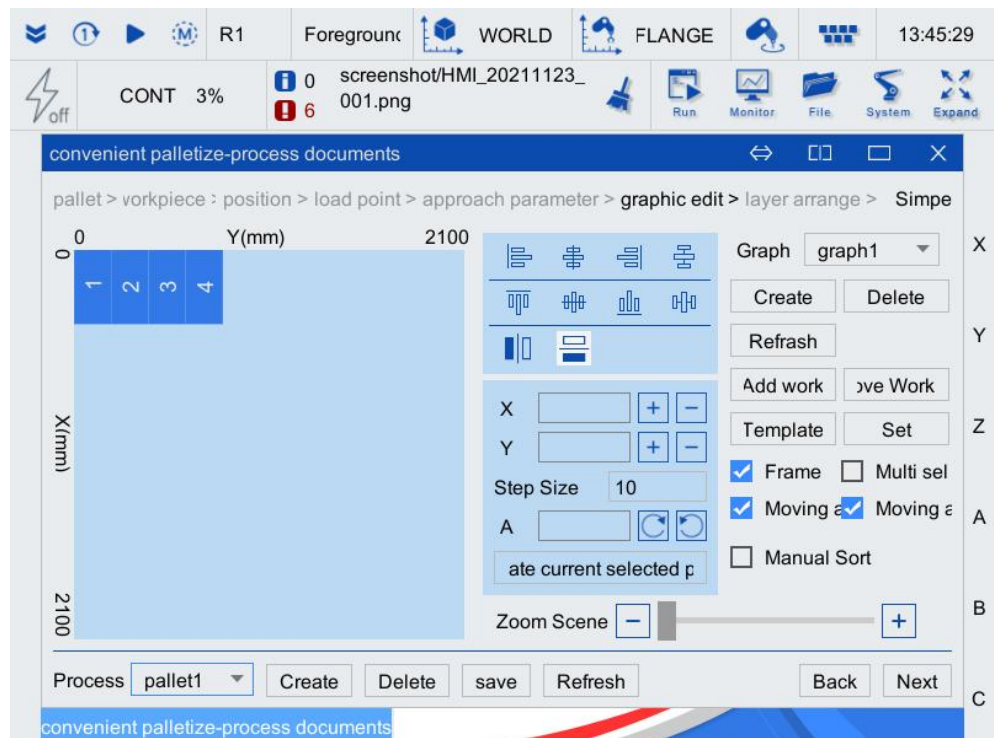

Figure 3-31 Graphic editing interface of the first floor of pressing seam palletizing
- Step3. Drag the workpieces with the stylus to make the arrangement of workpieces as shown in Figure 3-31.